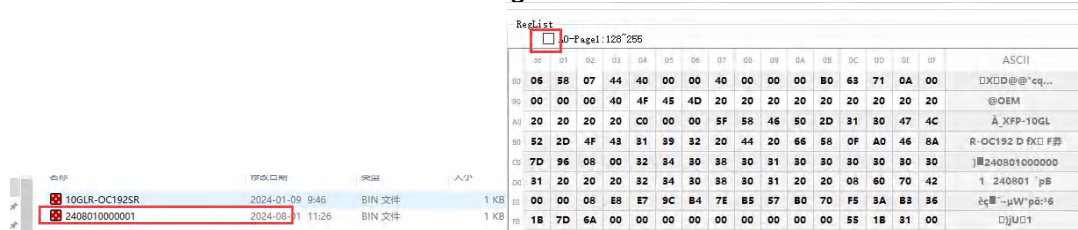

Figure 30
3.1.2 Click “Export BinFile” to import the Table01 bin (Figure 30)